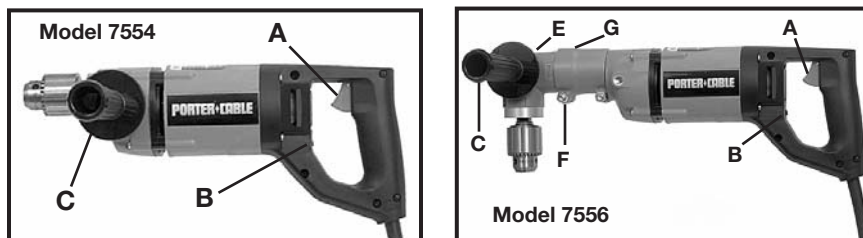

Fig. 2
An auxiliary handle (C) Fig. 2, is supplied and can be installed on either side of the tool. This handle screws directly into the drill housing providing complete control of the drill.
2. Squeeze TRIGGER SWITCH (A) Fig. 2, to start motor. Release trigger to stop motor.
3. A REVERSING SWITCH (B) Fig. 2 – is provided with either model. These models will operate in either the forward direction (clockwise rotation) for drilling holes, or the reverse direction (counterclockwise rotation) for releasing jammed drill bits. For counterclockwise rotation, stop the motor by releasing the trigger switch and move the reversing switch to the position labeled “R”, or in the opposite direction for clockwise rotation.
2. Loosen the outer sleeve screw (F) Fig. 2, and slide the right angle drive (E) Fig. 2, from the sleeve (G) Fig. 2 just far enough to disengage drive shaft from coupling.
An auxiliary handle (C) Fig. 2, is supplied with each drill.